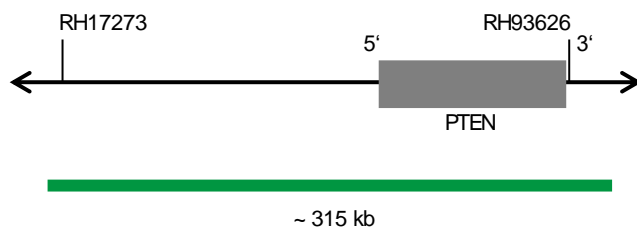

Fig. 1: SPEC PTEN Probe map (not to scale)
- ZyGreen (excitation 503 nm/emission 528 nm) labeled polynucleotides (~10 ng/ μ l), which target sequences mapping in 10q23.2-q23.31* (chr10:89,440,649-89,755,790) harboring the PTEN gene region (see Fig. 1).